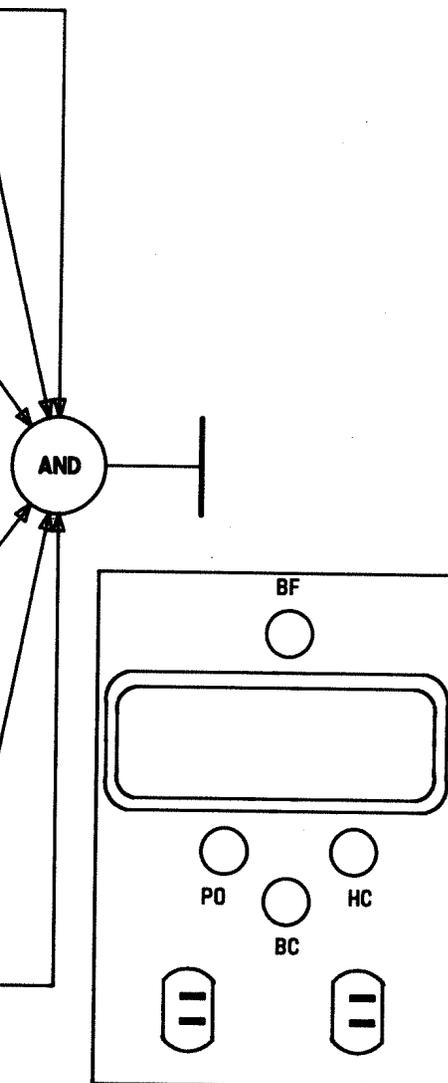

FIG. 2
- [6] Replace fuses **BC** and **BF** [on RT power panel, FIG. 2], in that order